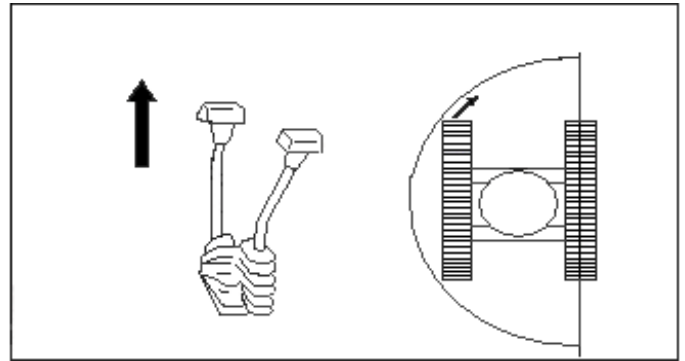

Fig 3-34
10. When going straight (fig 3-34) push forward or pull backward the operating rod/pedal. The movement of the operating rod/pedal bigger, the faster of the machine will be.